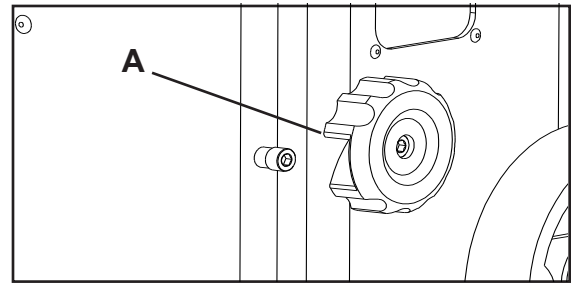

Figure 13
- a) Open the top and bottom wheel doors by turning the door locking knobs. (A-Fig.13)